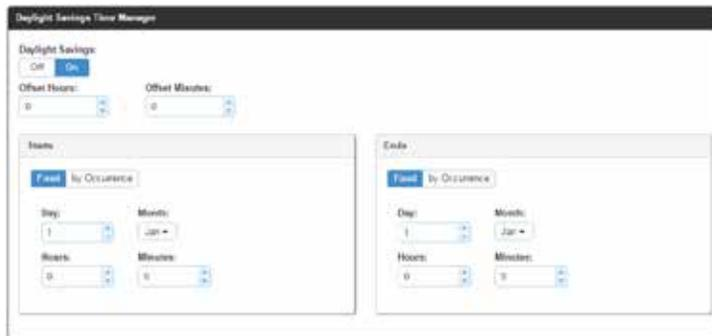

FIG. 69 Date/Time Options - Daylight Savings Time Manager
1. In the *Daylight Savings Time Manager* section (FIG. 69), enable Daylight Savings mode by clicking the **On** button. Clicking **On** reveals additional Daylight Savings options.